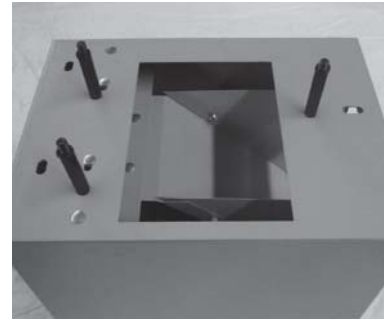

Figure 19
2. Line up two holes in top of stand with holes in jointer body assembly(Fig. 19)